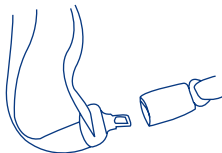

Fig. 42-2
8. A lap/shoulder combination seat belt with a **buckle that can slide freely** along the seat belt may require the use of a locking clip. (Fig. 42-2) Check your vehicle's owner's manual to see if the vehicle manufacturer has provided an alternate manner, such as a locking retractor in which to prevent movement of the lap portion of the seat belt.